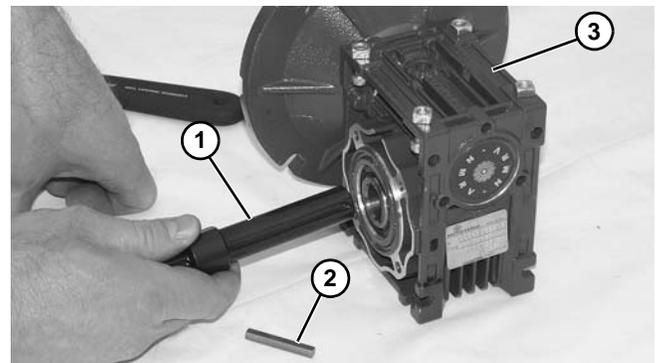

Figure 24
- Remove driveshaft (**Figure 24, item 1**) and key (**Figure 24, item 2**).
- Replace gear reducer (**Figure 24, item 3**).
- Replace the original shaft components into new gear reducer (Figure 24).